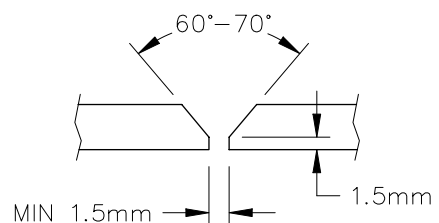
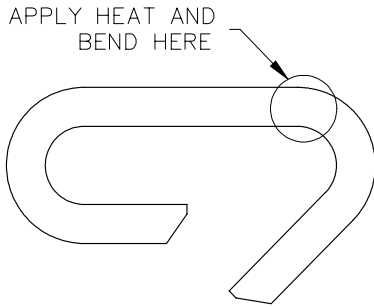

Figure 1 – Joint Preparation Details
Figure 2 – Cargo Tie-down Ring – Heat and Bend Position
- e. Prepare the ends of the replacement ring for welding in accordance with the joint preparation details in Fig 1.
g. Use oxygen and acetylene equipment to heat the ring at the bend point, as shown in Fig 2. Heat the ring until it is cherry-red in colour. Bend the ring in the direction to bring the open ends into alignment. Ensure a minimum gap of 1.5 mm is left between the two ends, as shown in Fig 1.